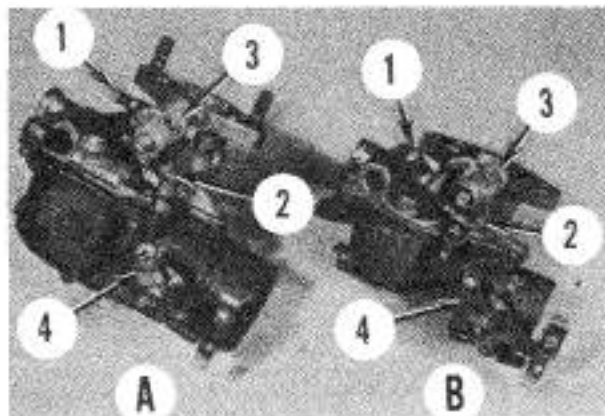

Fig. 43—Carburetor (A) is Zenith 13795 used on MF235 and MF245 models. Carburetor (B) is Zenith OE3435 used on MF230 models.
46. **ADJUSTMENT.** Zenith carburetors are used on all models. The smaller OE3435 carburetor (B—Fig. 43) is used on MF230 models, while 13795 is used on MF235 and MF245 models. Initial setting of idle mixture needle (1) is 2 to 2-1/2 turns open from closed position on the smaller carburetor, 5/8 to 3/4 turn open for the larger 13795 carburetor (A). Final adjustment should be made with engine operating at normal temperature. After mixture is correctly set, adjust low idle speed to 725-775 rpm for all models.
47. **OVERHAUL.** Zenith OE3435 carburetor used on MF230 model tractors is smaller and slightly different than the 13795 carburetor used on MF235 and MF245 model tractors. Refer to Fig. 43.
speed stop screw (2—Fig. 43) to obtain correct idle speed of 725-775 rpm. Adjust mixture needle to obtain highest smoothest idle, then readjust idle speed if necessary.